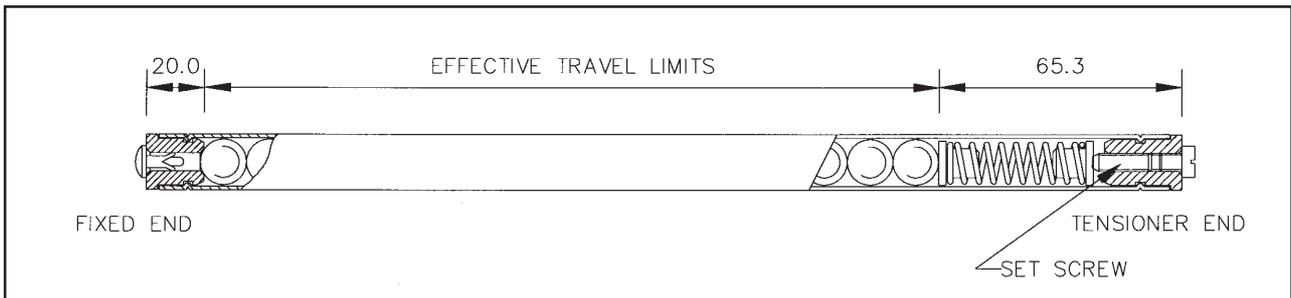

Figure 5.1 - Spherosyn Scale
- (A) Erroneous readings will occur if the Reader Head is allowed to travel beyond the Effective Travel Limits. (Refer to Figure 5.1)
- (B) The pre-load on the balls are factory set via the set screw at the tensioner end. Do not tamper with or adjust the set screw as this will alter the calibration and accuracy specification of the scale. (Refer to Figure 5.1)
- (C) When mounting scales in the vertical plane the tensioner end should be positioned at the top.